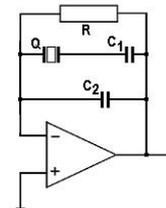

Fig. 10.6
10.3.2 Generator with quartz-crystal resonator tests. The circuit scheme is show in Fig. 10.6.